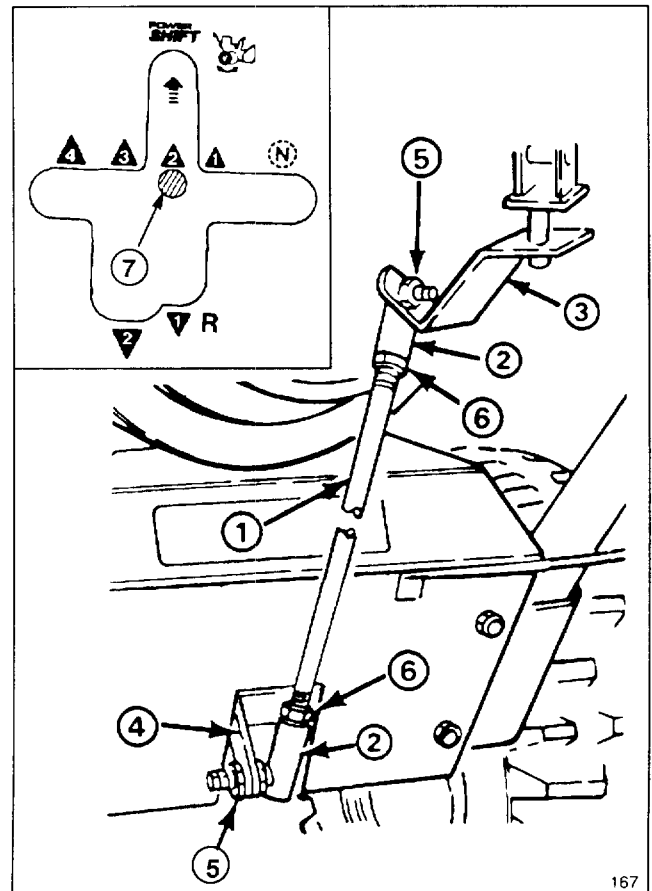

Figure 35
7. Chain adjustment will affect gearshift lever alignment. If gear shift lever is not aligned with Power Shift slot in control panel (Fig. 35, inset), shift rod length must be adjusted as follows: